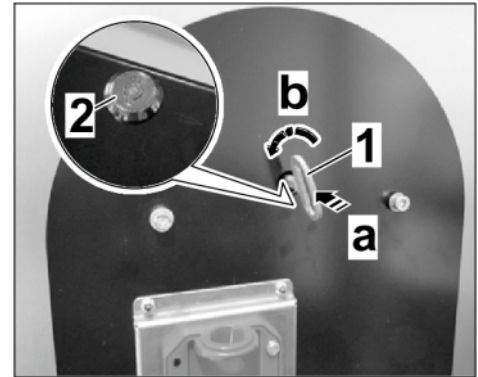

Figure 8
2.1.1 Insert key ⇒ *Figure 8-1*- through the opening in the rear closing plate ⇒ *Figure 8-2*- (⇒ *Figure 8-a*-).
Press the key in against the resistance and turn it counter clockwise ⇒ *Figure 8-b*- (lock opens).